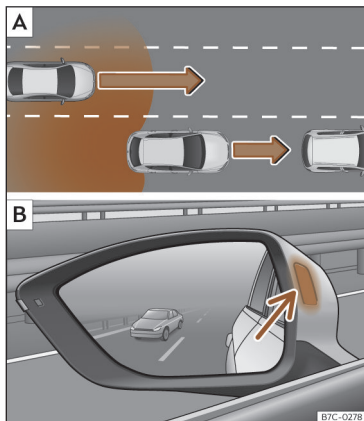
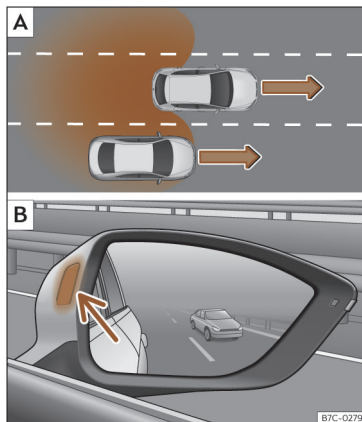

Fig. 122 Schematic diagram: **A** Overtaking with traffic behind the vehicle. **B** Side Assist indication on the left hand side.
Fig. 123 Schematic diagram: **A** Overtaking in the central lane and then joining the right lane. **B** Side Assist indication on the right hand side.
In the following situations, an indication will be displayed in the control lamp >>> **Fig. 122 B** (arrow) or >>> **Fig. 123 B** (arrow):
- When being overtaken by another vehicle >>> **Fig. 122 A**.
- When passing another vehicle >>> **Fig. 123 A** with a speed differential of approx. 10 km/h (6 mph). If the vehicle is passing at a considerably higher speed, no indication will be displayed.